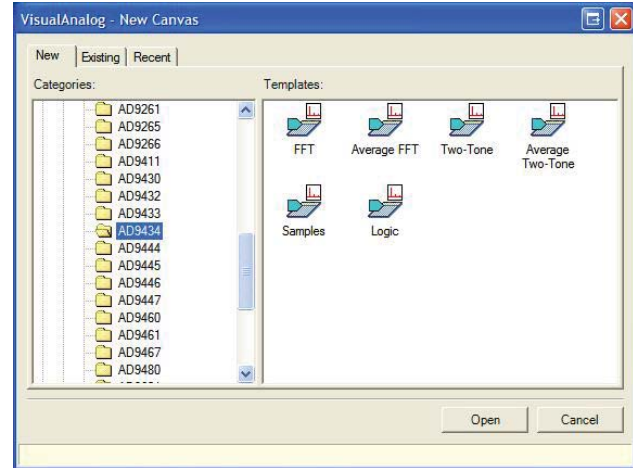

Figure 5. VisualAnalog, New Canvas Window
1. Open VisualAnalog® on the connected PC. The appropriate part type should be listed in the status bar of the **VisualAnalog – New Canvas** window. Select the template that corresponds to the type of testing to be performed (see Figure 5 where the AD9434 is shown as an example).